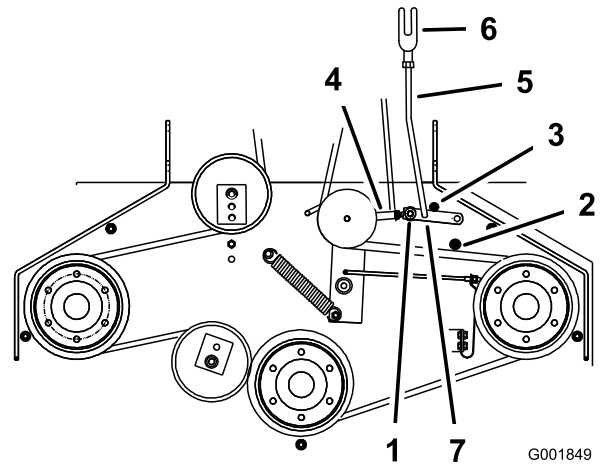

Figure 54
8. To adjust the assist arm link, remove the hairpin cotter pin from the assist arm (Figure 54).
11. Install the assist arm link into the assist arm and secure it with the hairpin cotter pin (Figure 54).